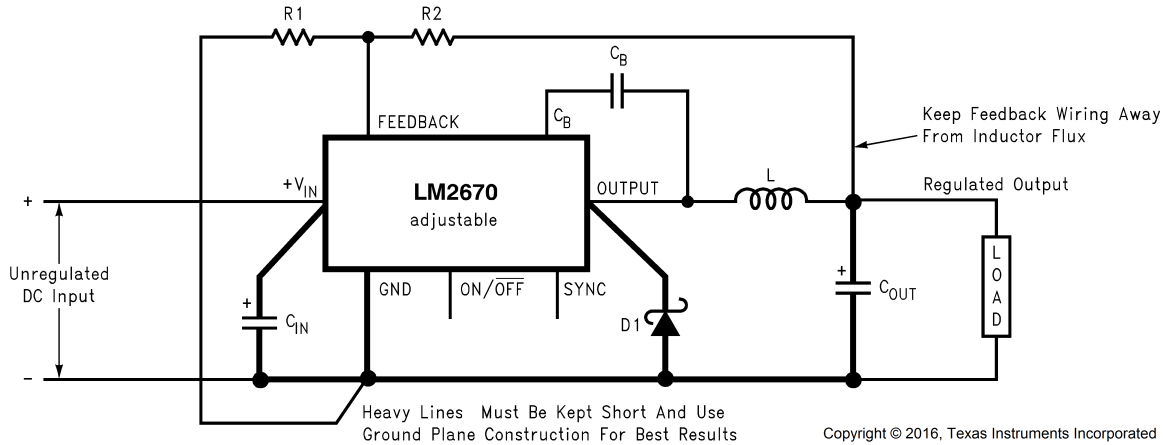

Figure 22. Basic Circuit for Adjustable Output Voltage Applications
Step 2: Select an LM2670S-ADJ. To set the output voltage to 14.9 V, two resistors need to be chosen (R_1 and R_2 in Figure 22). For the adjustable device the output voltage is set by the following relationship: